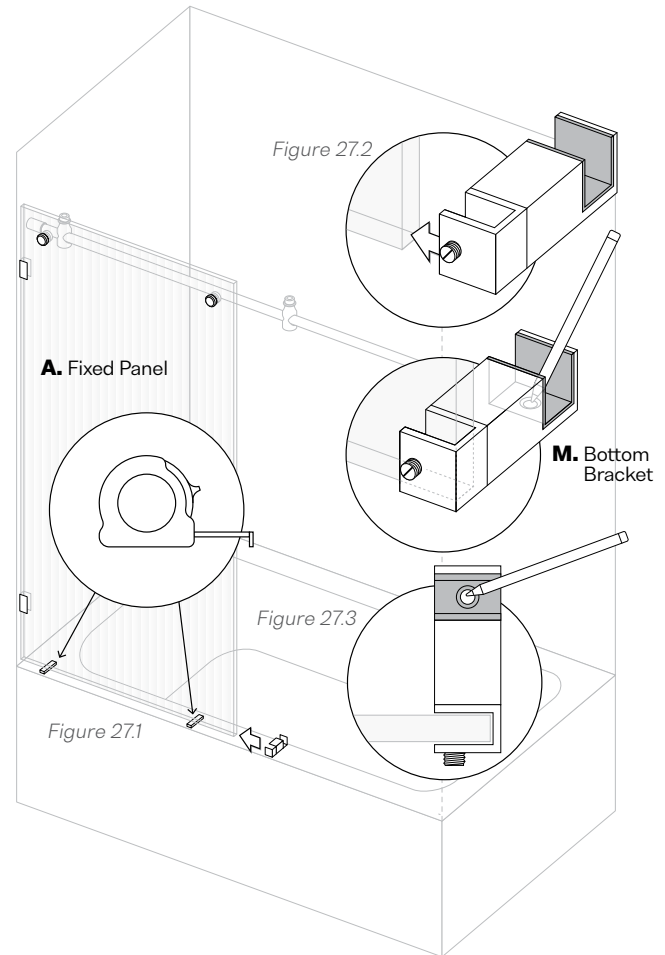

Figure 27.2
- Slide the Floor Bracket (**M.**) securely onto the Fixed Panel (**A.**). Be sure Floor Bracket (**M.**) is perpendicular to Fixed Panel (**A.**) (Fig.27.2).